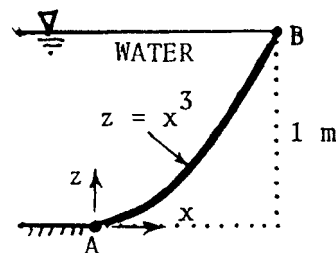

Fig. P2.84
**2.84** Determine (a) the total hydrostatic force on curved surface AB in Fig. P2.84 and (b) its line of action. Neglect atmospheric pressure and assume unit width into the paper.